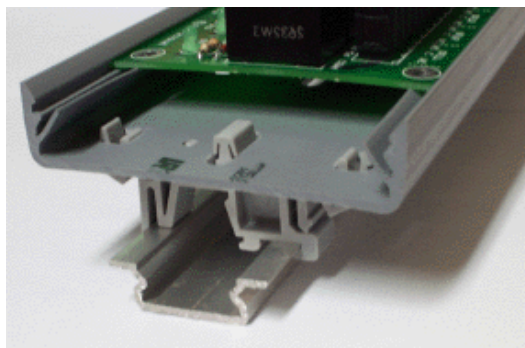

Figure 3: DIN Rail Mounting Kit Installation
2. Install the DIN rail clips into the openings on the bottom side of the SnapTrack™. Refer to Figure 3.